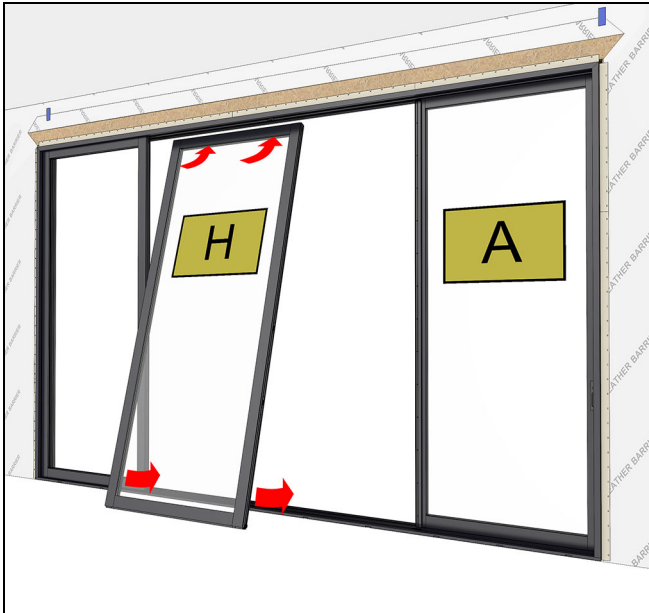

Figure 119 OOOX configuration shown.
8. Install the next (H) stationary panel. Slide the panel tight against the previous panel. See Figure 119.